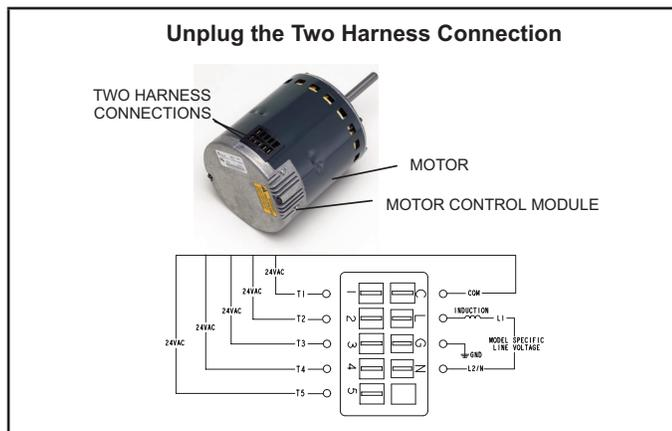

FIGURE 14
- 3 - Unplug the two harnesses from the motor control module. See figure 14.